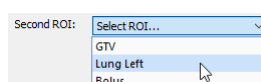

Figure 253 – Selecting the second ROI for algebra
3. Select the second ROI in the drop-down list that is displayed by clicking the **Second ROI** button (see Figure 253).